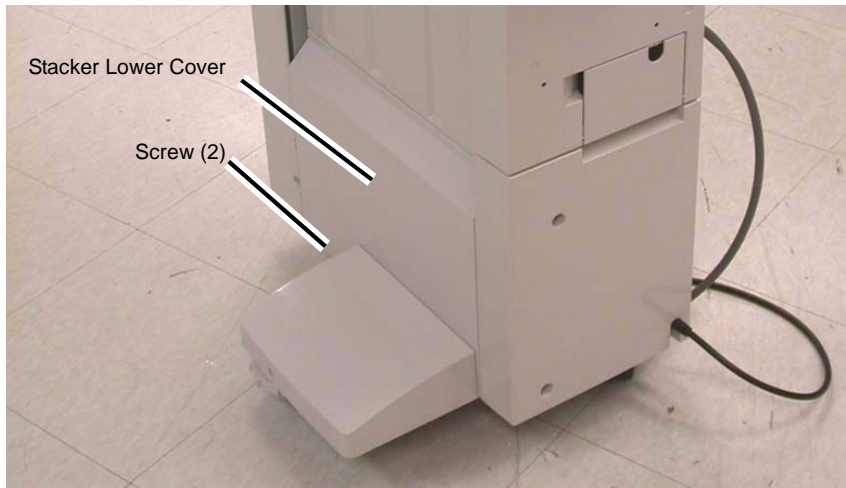

Figure 1 Removing the Stacker Lower Cover
4. Remove the Screws (2) (Figure 1).